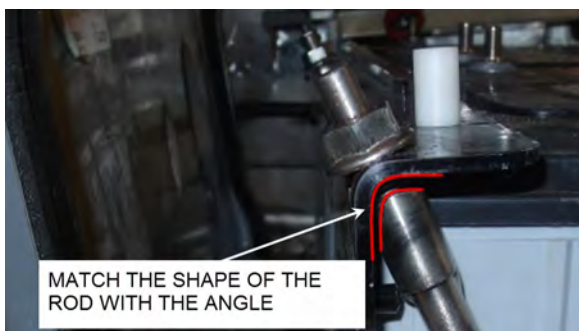

FIGURE 40: SHAPE OF THE ROD
3. The upper end of the rods is shaped to match with the angle (Figure 40).